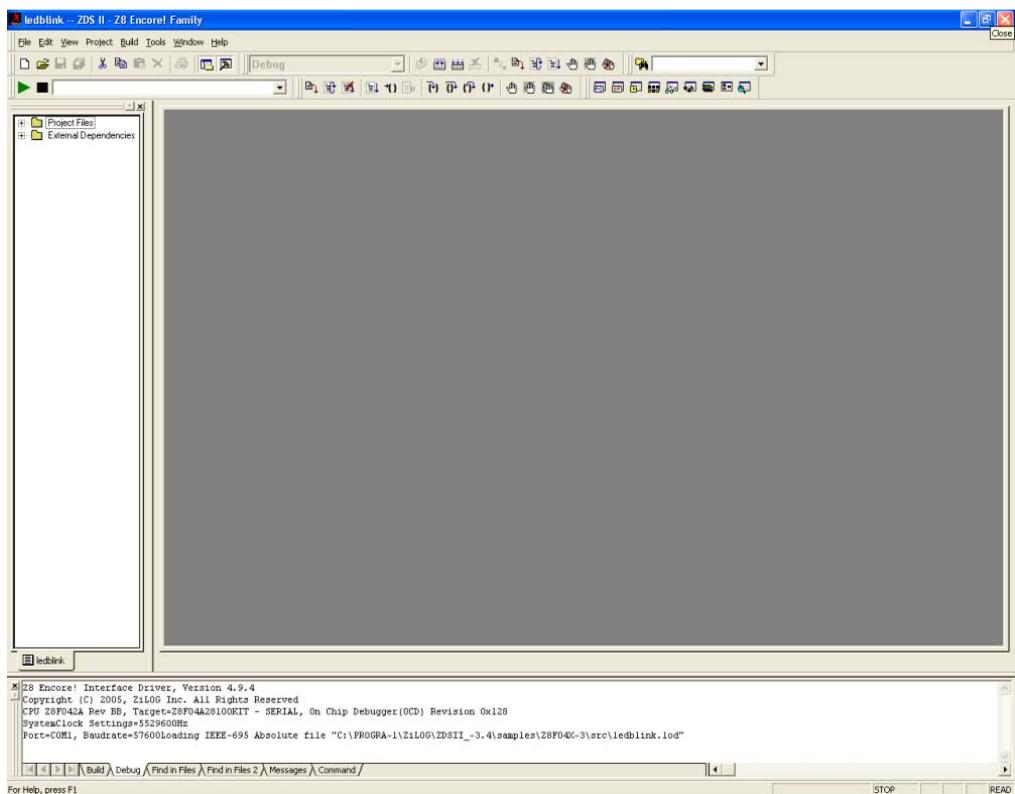

Figure 4. ZDSII Active Screen
11. Click **Go** icon  to start the program (see Figure 4).